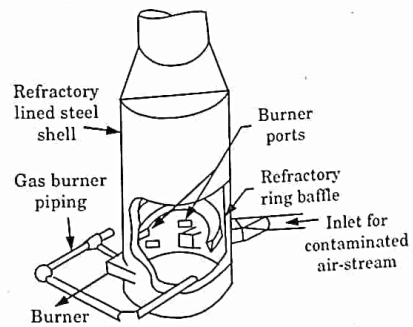
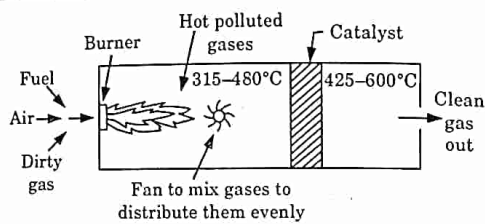

Fig. 4.3.1. Direct flame incineration.
Fig. 4.3.2. Catalytic incineration.
2. Pollutants, like hydrocarbons and carbon monoxide (CO) can be easily burnt, oxidized, and removed in such equipments.
3. Both, Direct flame combustion by burners Fig. 4.3.1, and catalytic combustion Fig. 4.3.2, have been used in commercial applications.
- The old catalytic systems were effective only when the hot gases were being passed through them; and hence, pre-heating by heaters (as shown in Fig. 4.3.2) was an absolute necessity. But in modern days, even cold catalytic systems, which work at ambient temperatures, have been designed, thus eliminating the necessity of pre-heating.